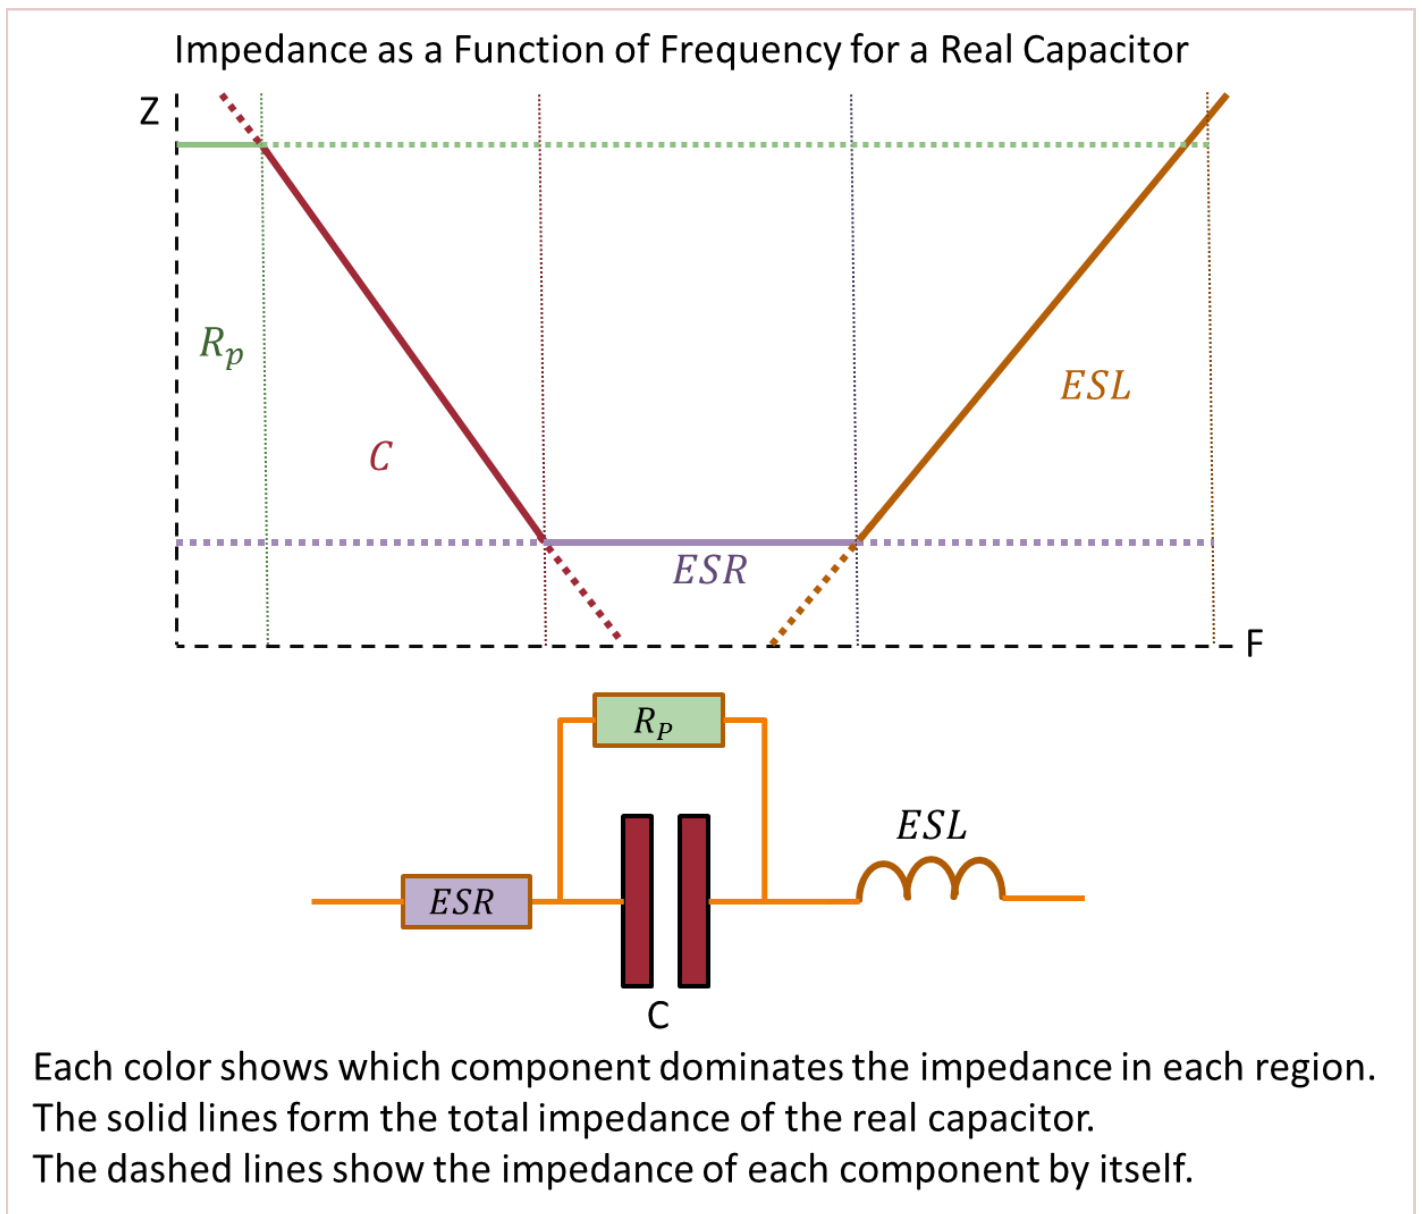
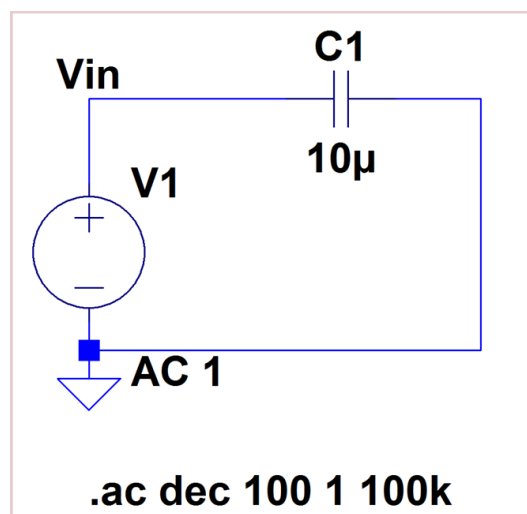
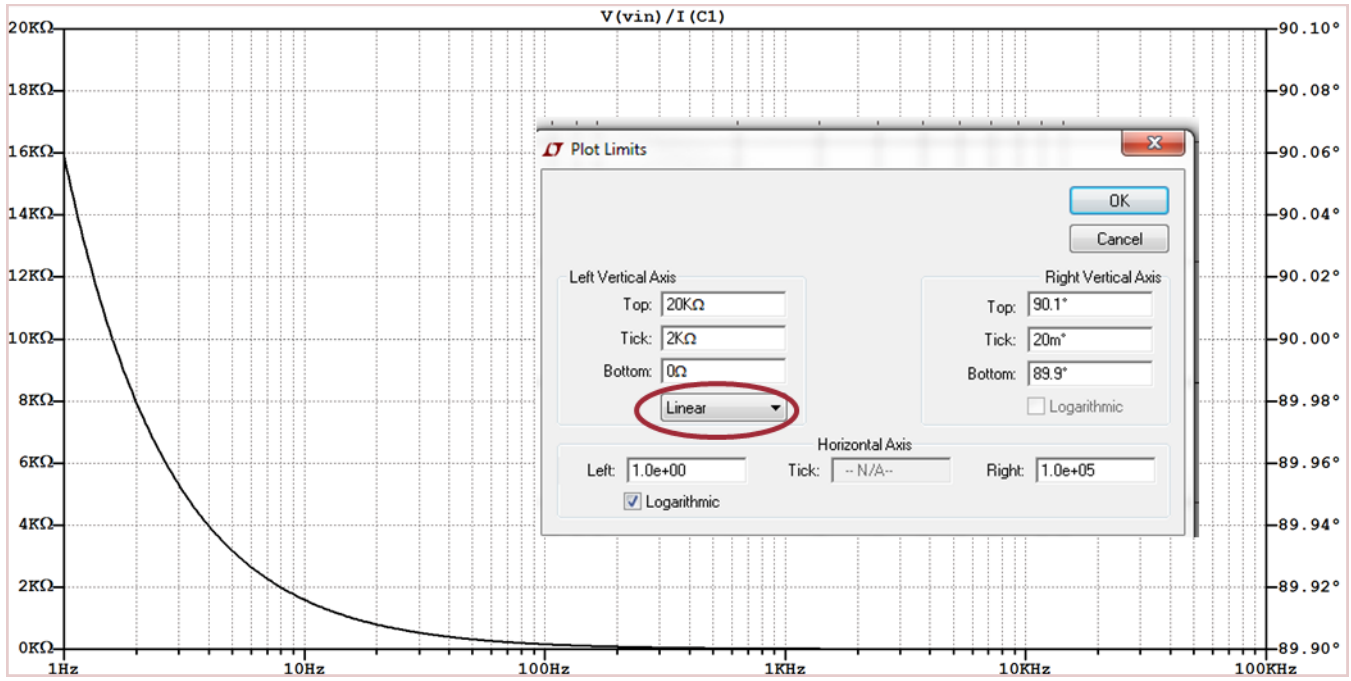

Figure 3. Simplified plot of impedance as a function of frequency.
Figure 4. Schematic for Prelab #1, step 1.
Figure 5. Changing plot settings.
The best way to get insight into the behavior of a real capacitor is to look at the plot of its impedance as a function of frequency. This type of plot is shown in Fig. 3. There's a lot going on in this plot so take the time to carefully look at it. The solid line is the impedance as a function of frequency for the entire real capacitor. In other words, if you measured the impedance of the capacitor at each point, you would get the solid colored line. However, in each different frequency region, one particular portion of the real capacitor is most responsible for the impedance in that region. At DC and extremely low frequencies (periods of seconds, minutes, hours and days), the parallel resistance which causes a leakage current, dominates. The dashed lines indicate what the impedance of just that component looks like. For example, the red dashed line indicates what the impedance would be if there was just an ideal capacitor. The next region, with the solid red line indicates the frequency range where the capacitor behaves close to an ideal capacitor with a steady downward slope with increasing frequency. The upper limit of this region depends on the type of capacitor as indicated in Table 1. The purple region is where the equivalent series resistance (ESR) dominates. In this region the capacitor has a very low impedance, but the resistance in series holds it to a constant value. The final region is indicated in brown and is dominated by the equivalent series inductance (ESL). This is the point where the inductor "wins" and "beats" the capacitor. The real capacitor at this point is more of an inductor than a capacitor.
1. Simulate the schematic shown below in Fig. 4. Plot the current through the capacitor. Next, in the expression editor, divide the input voltage by the current through the capacitor. This will give the impedance of the capacitor as a function of frequency. The Y axis defaults to dB, right click on the Y axis, select manual limits and change to “linear”. This will show the units in Ohms. These steps are shown in Fig. 5. Note that the straight line slope of capacitor impedance as shown in Fig. 3 only occurs on a log-log plot. We are changing to a linear-log plot because dB units aren’t very intuitive when dealing with ohms. **(Schematic, Plot)**